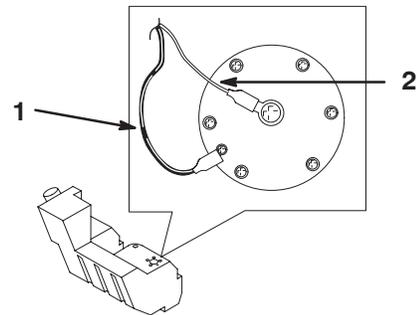

Figure 49
- Disconnect the two wires leading to the right side of the tank (Fig. 49).
19. On the right side of the tank, connect the orange wire to the center post and the black wire to the outside post (Fig. 49).